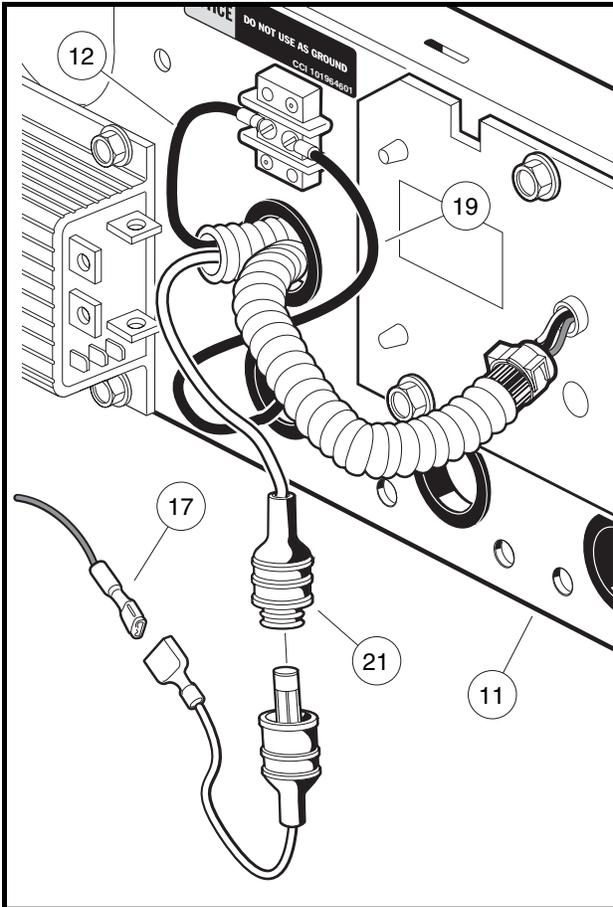

Figure 4-24 Charger DC Cord Black Wire and Blue Wire
4. Remove 10-gauge black charger DC cord wire (19) from the terminal strip (Figure 4-24, Page 4-31).
6. Disconnect the 10-gauge charger DC cord blue wire (17) from the sense lead fuse (Figure 4-24, Page 4-31).